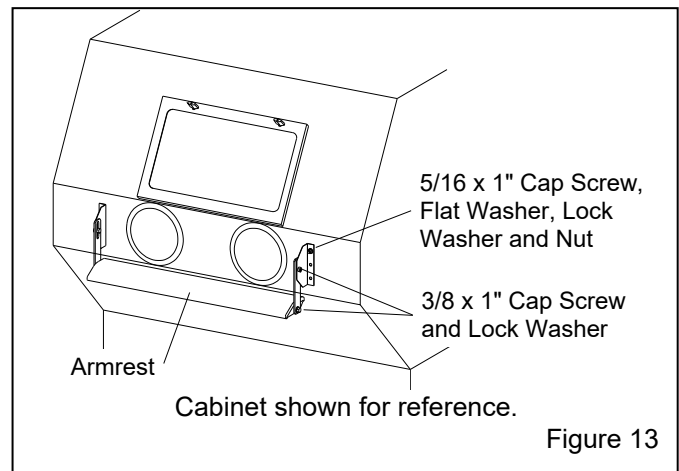

Figure 13
**3.4.1** Assemble the armrest and mounting brackets, as shown in Figure 13.